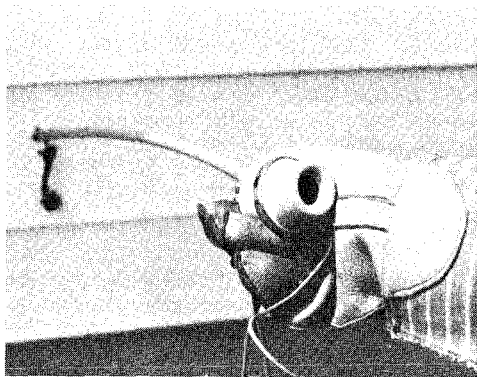

Fig. 1 — Gunsight Method
1.02 This section is reissued to illustrate the new method of holding the indicator and the probe in one hand (Gunsight Method) (See Fig. 1). This method will enable the workman to keep his eyes on the indicator at all times, and in case of high voltage that would burn out the indicator, he would see the glow before the indicator burns out and will not be mistaken and take the situation as a no voltage condition.